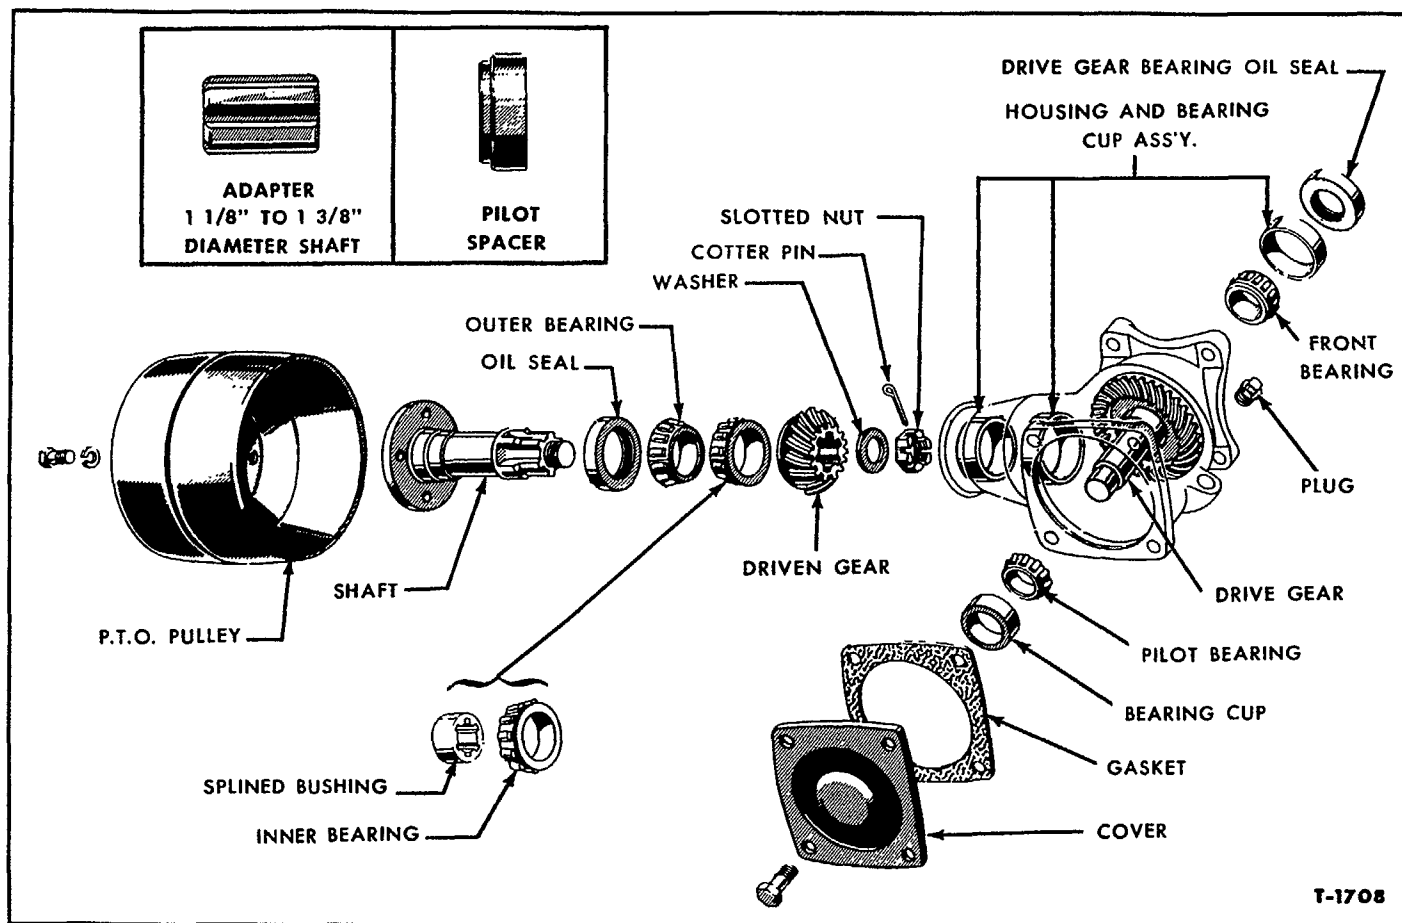

Figure 9—Belt Pulley Assembly
P.T.O. Shaft 1½" Diameter: The late model P.T.O. belt pulley assembly has a 1⅜" female spline. To install this assembly on early model tractors, the 1⅜" shaft must be equipped with a 1⅜" to 1⅜" adapter. See the insert in Figure 9.
P.T.O. Shaft 1½" Diameter: Remove the P.T.O. cap and install the pilot spacer, Figure 9, in the end of the P.T.O. cover. Seat the spacer with a soft-head hammer. Position the belt pulley assembly on the housing, center it on the pilot spacer, and bolt it to the center housing.
3. Remove the cotter pin, Figure 9, and loosen the
4. Remove the driven gear, bearing, and splined bushing, Figure 9. Pull the pulley shaft assembly out of the housing.
2. Use the tools mentioned in step 1 and pull the drive gear front bearing, Figure 9. Install the new bearing with a 1¾" I.D. sleeve and press.